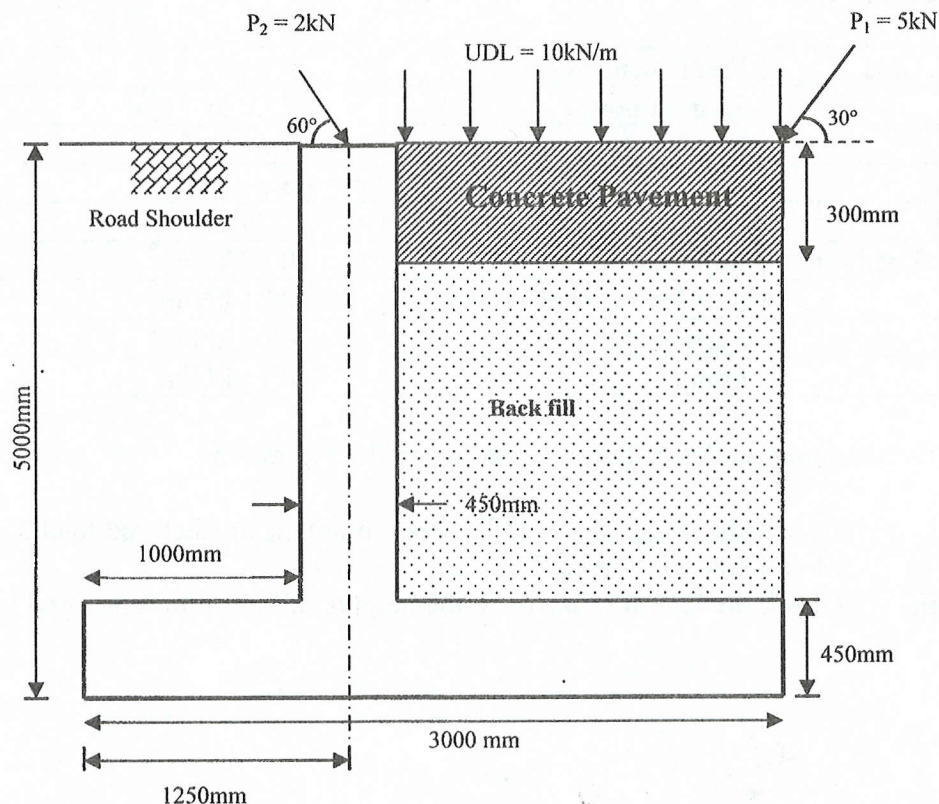

Figure 2.0
2. (a) Write the **SIX (6)** compatibility equations of deformed body or structure. Assume the deformation is small. (6 marks)
3. (a) Prepare the following basic data (i – iv) to design a cantilever retaining wall to support a road shoulder as shown in the Figure 2.0. The top surface of the concrete pavement is subjected to uniformly distributed load of 10kN/m and two point load P_1 and $P_2 = 5\text{kN}$. Assume the retaining wall is backfilled with granular material having a unit weight of 20 kN/m^3 and an internal angle of friction of 30° . The bearing capacity from soil investigation is 200 kN/m^2 , the coefficient of friction is 0.5 and the unit weight of concrete pavement is 24 kN/m^3 . Determine : (16 marks)